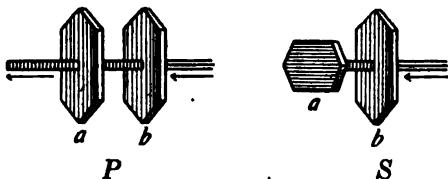

FIG. 412.—Effect of tourmaline crystals on light.
**414. Polarization of Light.**—It is found that two crystals of tourmaline behave toward light just as the two gratings behave with respect to the transverse waves of the rope. Thus, if a small opening in a screen is covered with a *tourmaline* crystal, light comes through but slightly diminished in intensity. If a second crystal is placed over the first one so that the two axes are in the same direction as in Fig. 412*P*, light is as freely transmitted through the second crystal as through the first, but if the crystals are crossed (Fig. 412*S*) no light passes the second crystal.
ting light that is vibrating in one particular plane. The direct conclusion from this is that *light waves are transverse rather than longitudinal*. The experiment just described illustrates what is called *polarization of light*. The beam that after passing through *a* (Fig. 412) is unable to pass through *b*, if the two axes are crossed, is called a *polarized beam*. The conclusion that light waves are transverse is therefore based upon the phenomenon of the polarization of light. This was first discovered by Huygens in 1690.